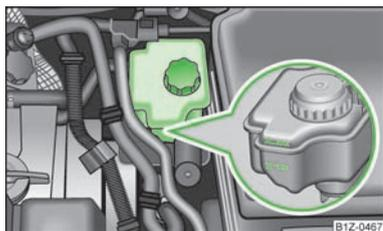

Fig. 139
- Check the level of brake fluid in the reservoir » Fig. 139. The level must be between the "MIN" and "MAX" markings.